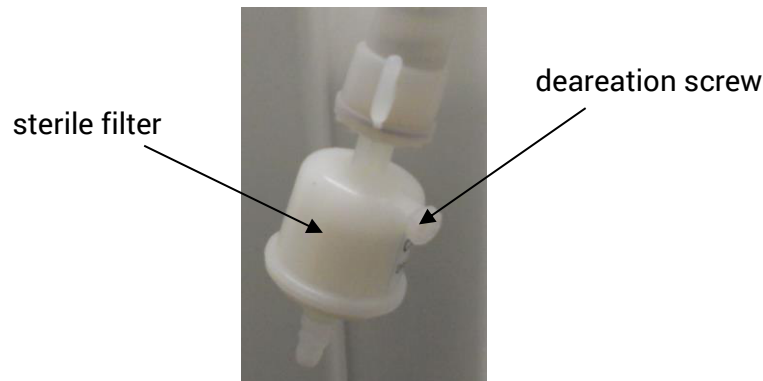

Figure 11: sterile filter
- At first water dispensing please open the deaeration screw for a short time to vent the sterile filter (see Figure 11: sterile filter).